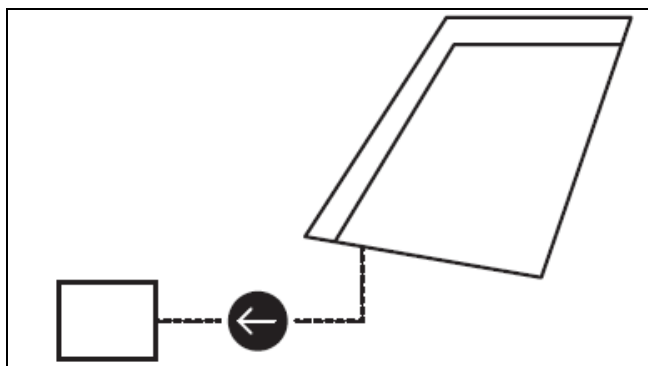

Figure 59
2. If needed, run the cable to a junction. See Figure 59.